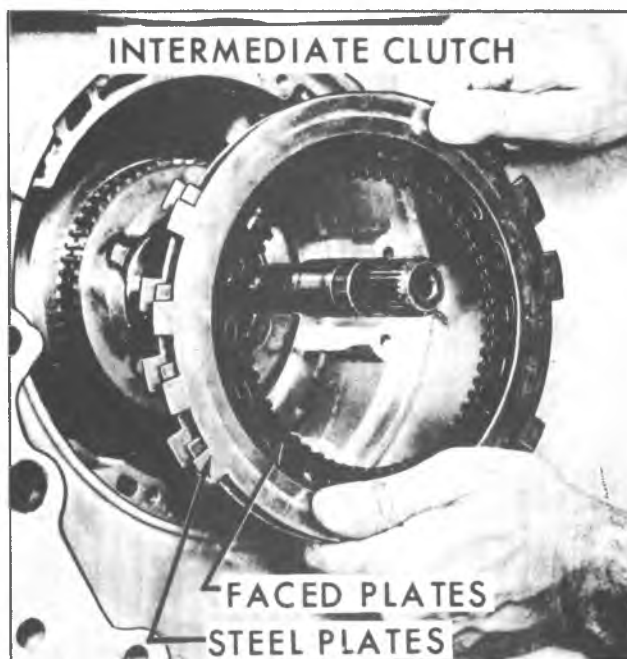

Fig. 7A-32B--Removing Intermediate Clutch Plates
4. Remove intermediate clutch drive plates and steel reaction plates (fig. 7A-32B).